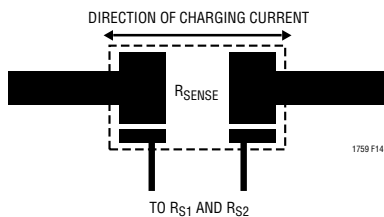

Figure 14. Kelvin Sensing of Charging Current
5. For best current programming accuracy provide a Kelvin connection from R_{SENSE} to R_{S1} and R_{S2} . See Figure 14 as an example.